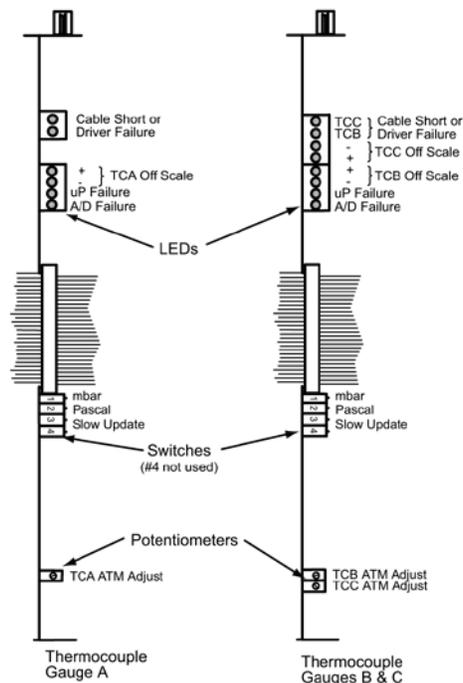

Figure 3-1 Thermocouple Modules, Top View (Controller Cover Removed)
2. Remove the top cover and locate the TCA thermocouple gauge PC board. See Figure 3-1.